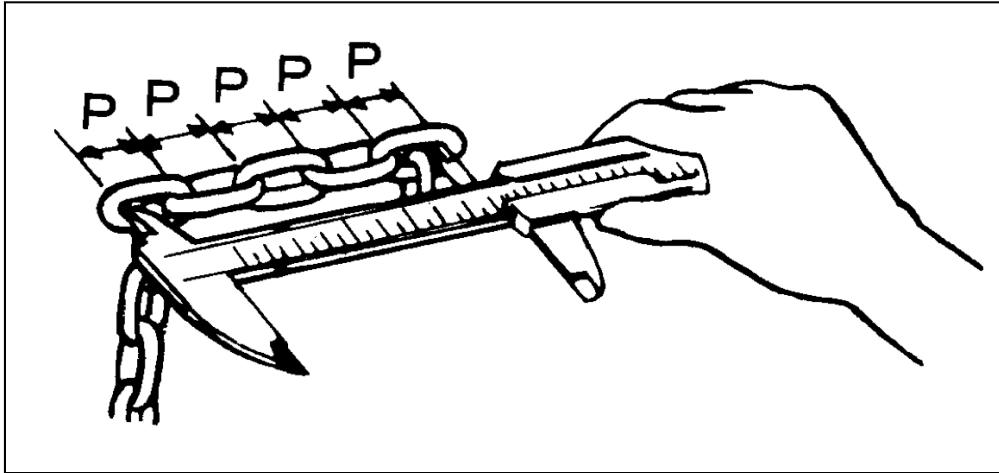

Fig 5 Checking chain dimensions
**Checks on load chain** (see Fig. 5 and Table 2)